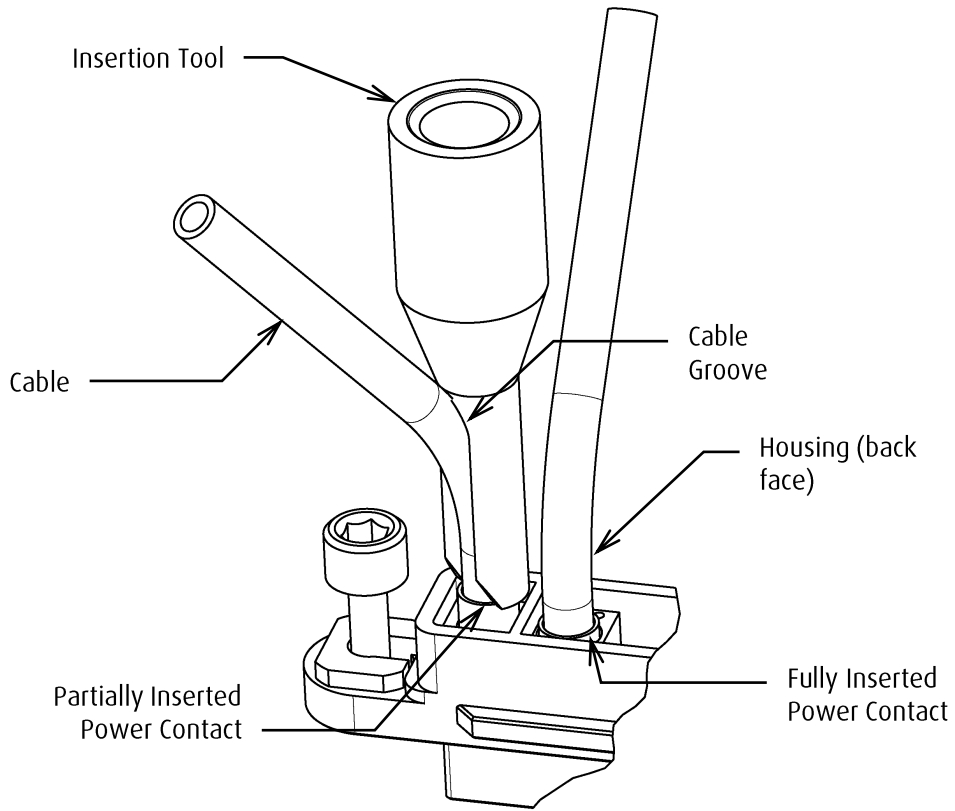

Figure 1
5. Place the insertion tool over the wire, with the wire sitting in the groove and the tool resting on the back of the crimped socket (see Figures 1 and 4).